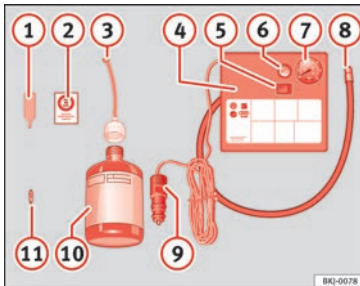

Fig. 61 Standard representation: contents of the anti-puncture kit.
- Unscrew the tyre valve cap and insert. Use the » **Fig. 61 1** tool to remove the insert. Place it on a clean surface.
- Shake the tyre sealant bottle vigorously » **Fig. 61 10**.
- Screw the inflator tube » **Fig. 61 3** into the sealant bottle. The bottle's seal will break automatically.
- Remove the lid from the filling tube » **Fig. 61 3** and screw the open end of the tube into the tyre valve.
- Place the insert back into the tyre valve using the tool » **Fig. 61 1**.
- Screw the compressor tyre inflator tube » **Fig. 61 8** into the tyre valve.
- Check that the air bleed screw is closed » **Fig. 61 6**.
- Insert the connector » **Fig. 61 9** into the vehicle's 12-volt socket » **page 140**.
- Turn the air compressor on with the ON/OFF switch » **Fig. 61 5**.